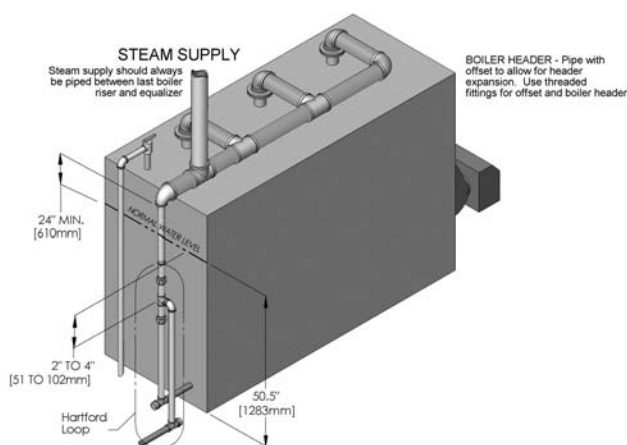

Figure 3.3: Typical piping arrangement for boilers with three risers.
- d) See Figure 3.3 for a typical piping arrangement for boilers with three risers. (TC-11 through TC-18)